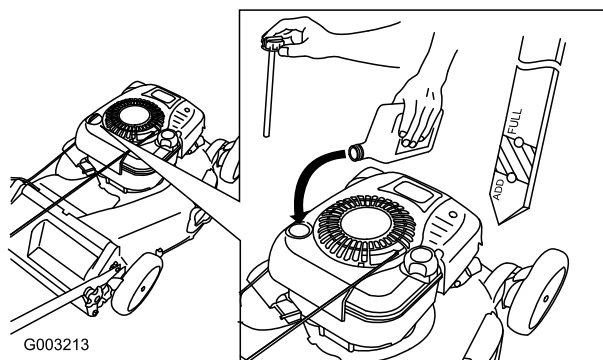

Figure 37
4. **Slowly** pour oil into the oil fill tube until the oil level reaches the Full line on the dipstick (Figure 37). **Do not overfill.** (Max. fill: 26 oz. (0.77 l), type: SAE 30W detergent oil with an API service classification of SF, SG, SH, SJ, SL, or higher.)
5. **Slowly** pour oil into the oil fill tube until the oil level reaches the Full line on the dipstick (Figure 37). **Do not overfill.** (Max. fill: 26 oz. (0.77 l), type: SAE 30W detergent oil with an API service classification of SF, SG, SH, SJ, SL, or higher.)